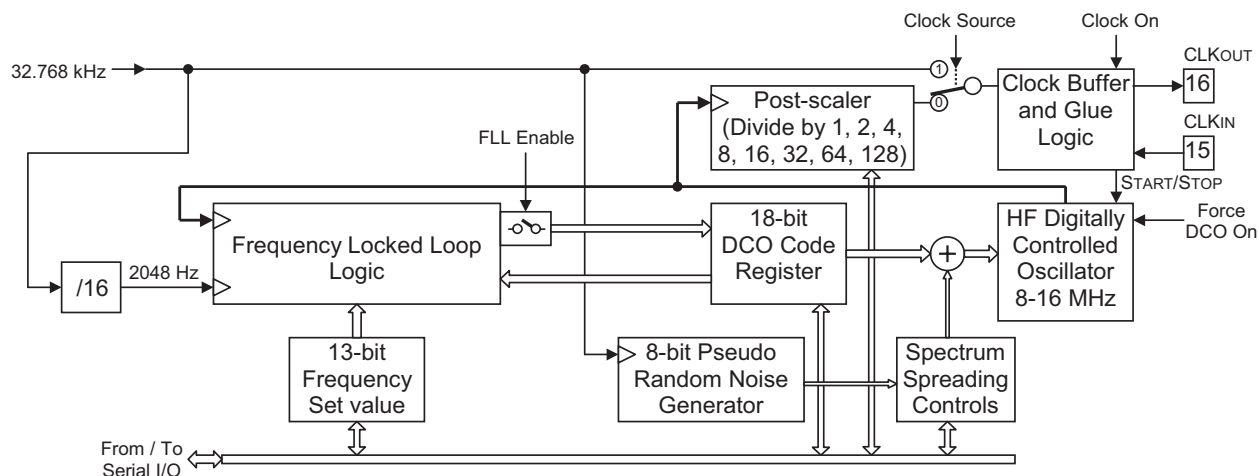

Figure 5: High-Frequency (HF) Oscillator
3. High-Frequency (HF) Oscillator
The frequency synthesizer in the SH3000 is constructed from the 2:1 digitally-tunable 8.0–16.0 MHz High-Frequency (HF) oscillator followed by a programmable binary post-divider; see **Figure 5**.